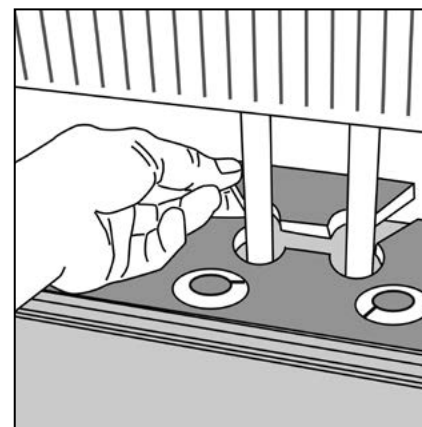

Figure 56 Radiator pipes
- ▶ Install the floor plank. If necessary, put a bead of contact adhesive on the cut piece and replace. Insert a spacer directly behind the inserted piece to wedge it in place ensuring that the correct sized expansion gap has been left. Leave this in place until the adhesive has hardened. (Fig 56)